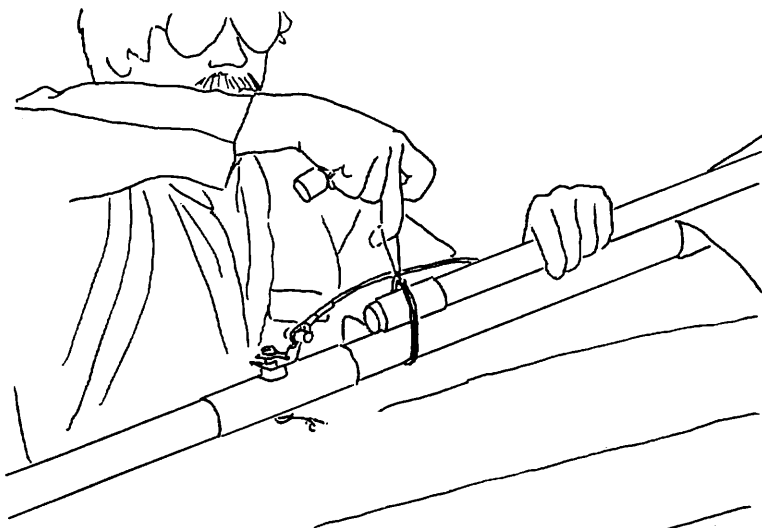

FIG 59
- 7) Remove the kingpost from the base by lifting straight up. If you have a streamlined kingpost, install the protective covers over the top and bottom ends. Secure the bottom end to the rear of the keel with the bungee loop at the rear of the keel. (Fig 59)